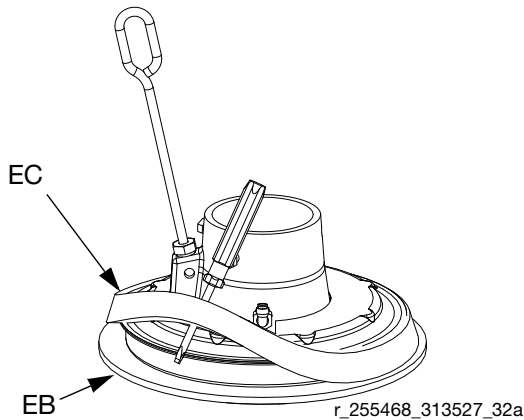

FIG. 18: Installing Spacer
3. *Working from the top*, use screwdriver to position spacer (EC) between flange and wipers (EB). See FIG. 18.